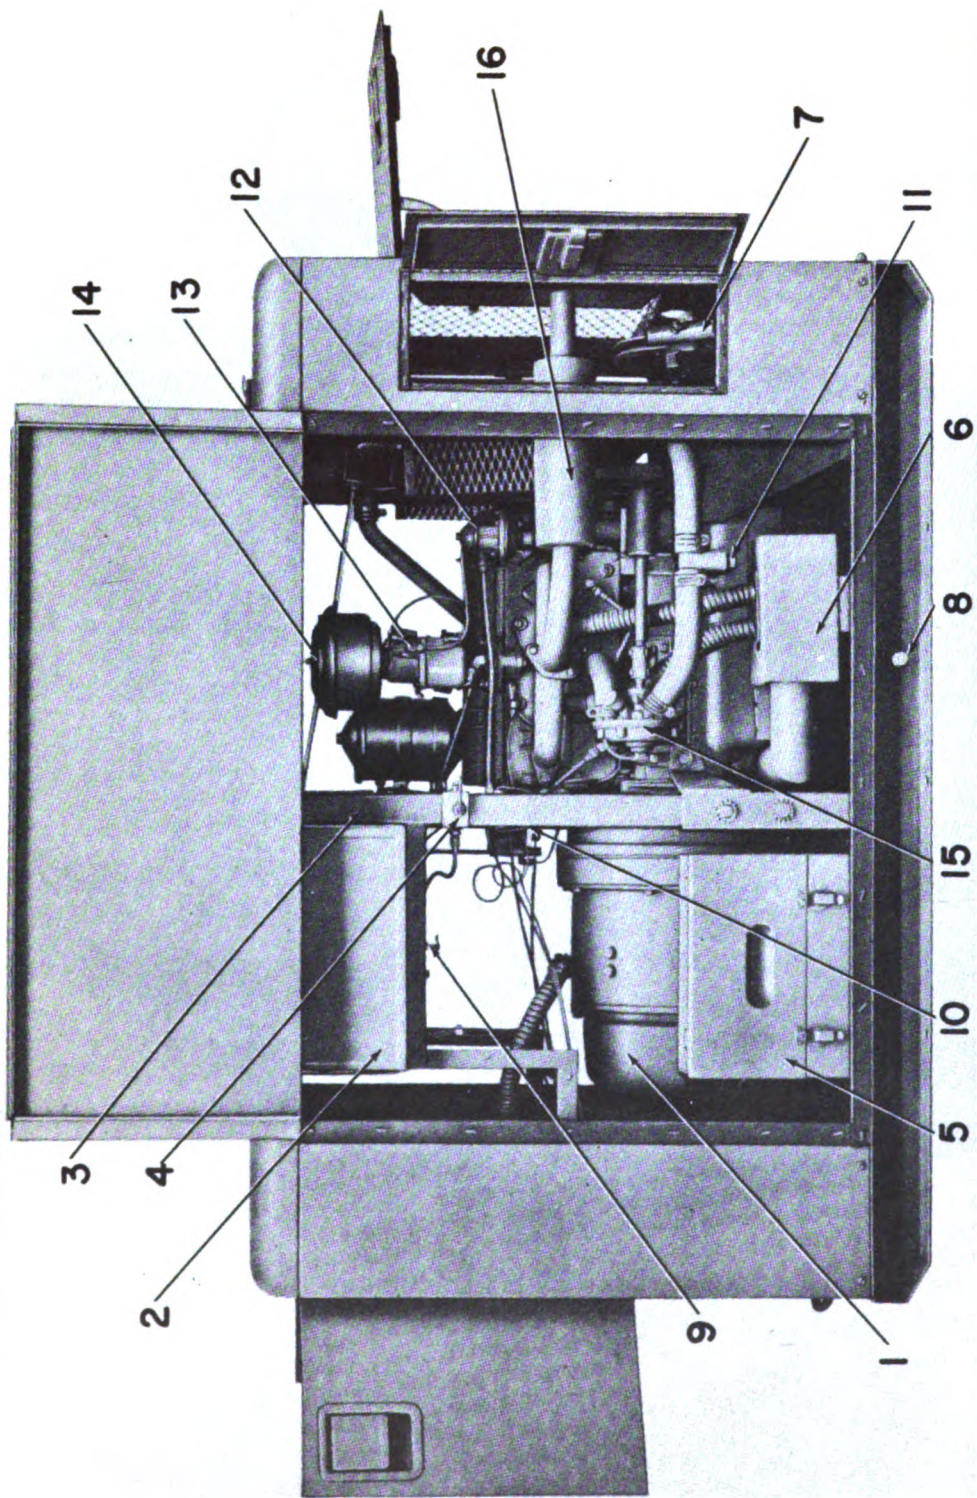

Figure 2—Left Side View—Open
c. Place the torch in its bracket (see Fig. 2) with the nozzle extending into the heater tube as far as possible.
Throw main circuit breaker to OFF and allow engine to run without load for about ½ minute. Pull throttle all the way out, then push up the STOP button located under the magneto (see Fig. 2).